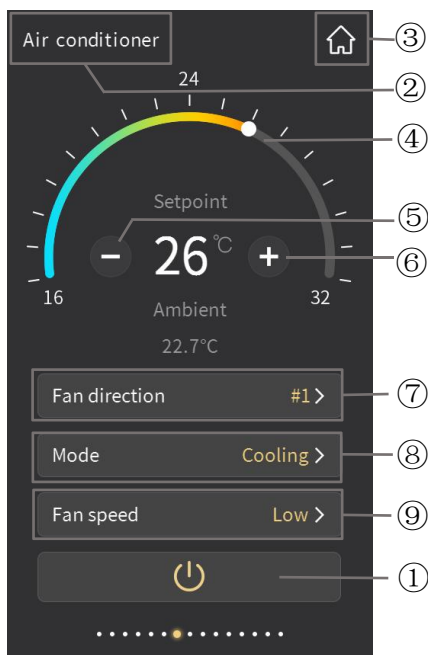
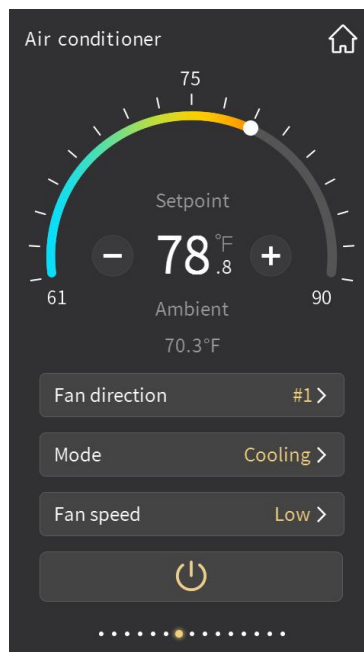

Fig.2.4.1
Fig.2.4.2
- ② **This area displays the page description identification of Air-Conditioner control, user can define the description through ETS;**
- ③ **Return to Home page by touching this icon;**
- ④ **Adjust the setting temperature by sliding this ring slider;**
- ⑤ **The function of this icon is to decrease the temperature;**
- ⑥ **The function of this icon is to increase the temperature.**
Adjusting the temperature by sliding the ring slider④ or touching the icon⑤ and icon⑥. For each touching of icon⑤ and icon⑥, the adjustment range is 1.0 degrees. When the setting temperature unit is set to degrees Celsius(°C), as shown in Fig.2.4.1, adjustment range of the setting temperature is 16~32°C by default; when the setting temperature unit is set to Fahrenheit(°F), the current temperature value will automatically convert to Fahrenheit value, as shown in Fig.2.4.2, adjustment range of the setting temperature is 61~90°F by default. The temperature adjustment range can be modified through parameter setting.
Under fixed fan direction, select one of the 5 options (#1,#2,#3,#4,#5) for fan direction position, for instance, select #1, interface as shown in Fig.2.4.3, then touch the area outside the sub-window to return the previous level function page, the position selected will be shown on the fan direction area of the function page, as shown in Fig.2.4.1. For swing fan direction, because fan direction change all the time, there would be no fixed position, only display character "Swing" on the interface.
Fan speed adjustment of fan direction set to be disable or enable by parameter configuration. When disable, there will be no fan speed item shown on the interface, as shown in Fig.2.4.1; when enable, fan direction can be adjusted.